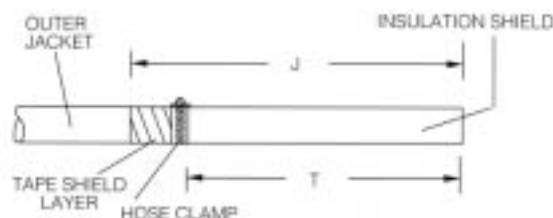

Figure 4.
- Dimension "T" is length of tape shield to be removed for cable size. (Refer to Figure 4.)
- Slide hose clamp over cable and position it to length indicated in Table 2. (Refer to Figure 4.) Tighten the hose clamp in place.
- Remove tape shield layer to hose clamp 'T' dimension. (Refer to Figure 4.)